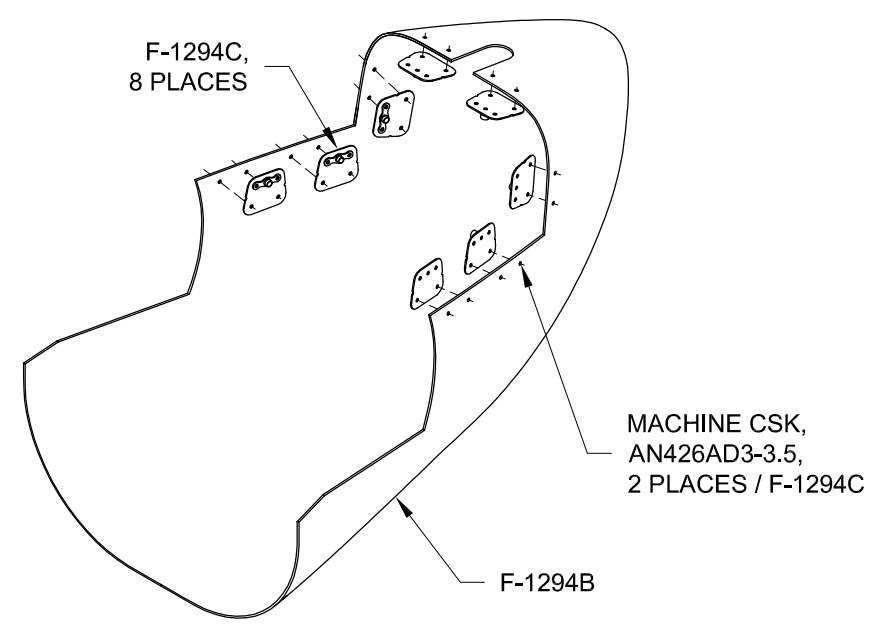

**FIGURE 1:**
**Step 1:** Cleco the F-1294C Tabs to the F-1294B Lower Tailcone Fairing. Temporarily screw the F-1294A Upper Tailcone Fairing to the tabs as shown in Figure 1.
**Step 2:** Mark, separate, then sand an even gap between the mating edges of the F-1294A & B Upper and Lower Tailcone Fairings per the dimensions given in Figure 1.